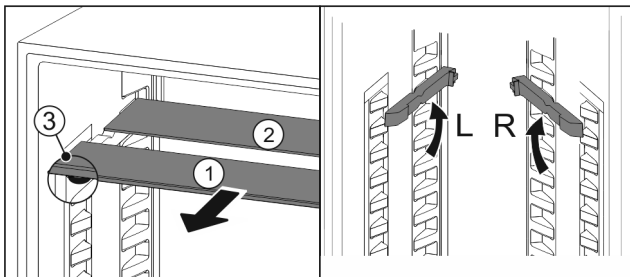

Fig. 133
- ▶ Pull the glass panels out Fig. 133 (1) from the front, one at a time.
- ▷ The glass panel Fig. 133 (1) with the trim strip is at the front.
- ▷ The stops Fig. 133 (3) point downward.